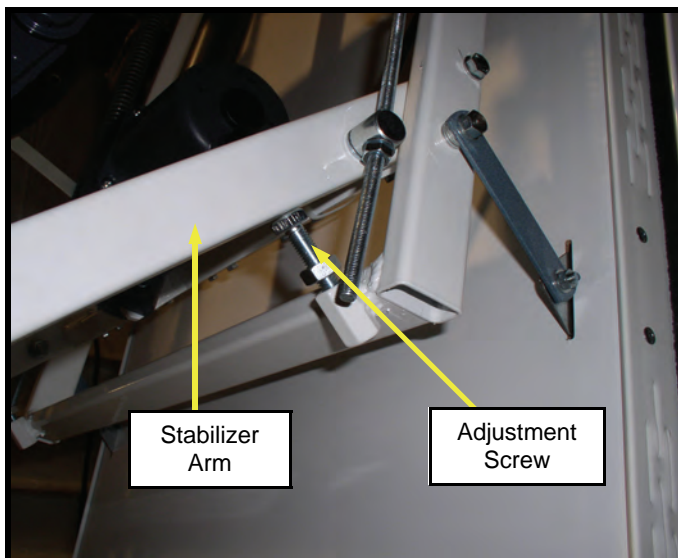

Figure 11
2. Lower adjustment screw by turning as far as it will go. Do both sides. Figure 11